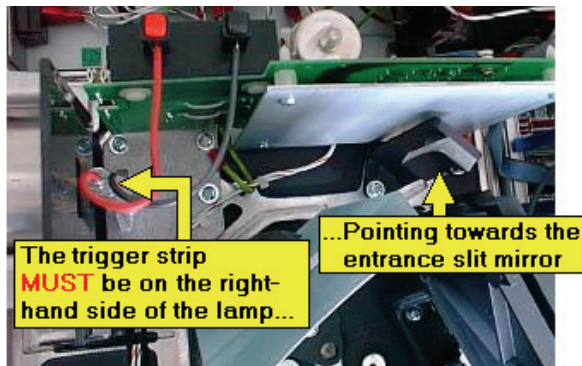

Figure 73 Aligning the electrode
6. Unclip the earth lead from the cover, as shown in Figure 73.